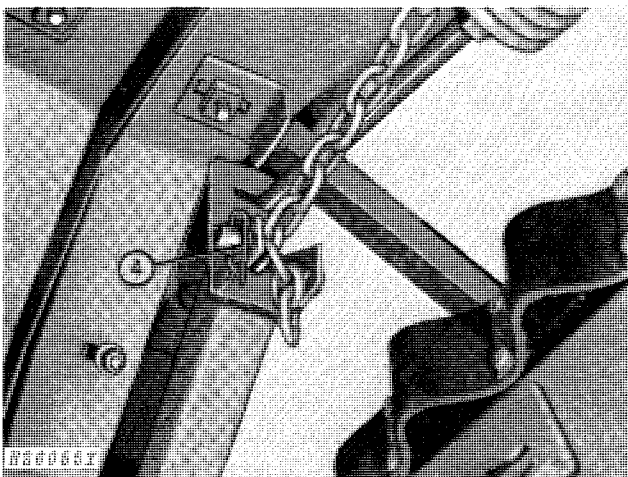

Fig. 105-Adjusting Point Height
4. Attach height adjusting chain to support bracket with drilled pin. Place drilled pin in rear hole and secure with spring locking pin (Fig. 105).